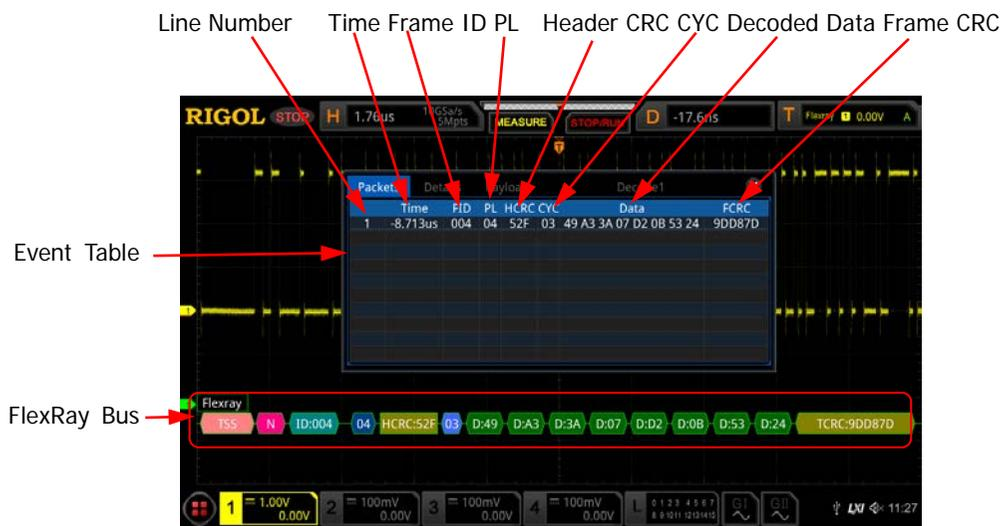

Figure 12-13 FlexRay Decoding Event Table
- Open or close the event table: Press **Event Table** continuously to enable or disable the event table. When you enable the event table, the following figure is displayed, as shown in Figure 12-13. You can also enable the touch screen to tap the icon  at the upper-right corner of the table to close the event table. Besides, when the operating status is "STOP", you can also rotate the multifunction knob  to select a specified line and view the corresponding decoding information.